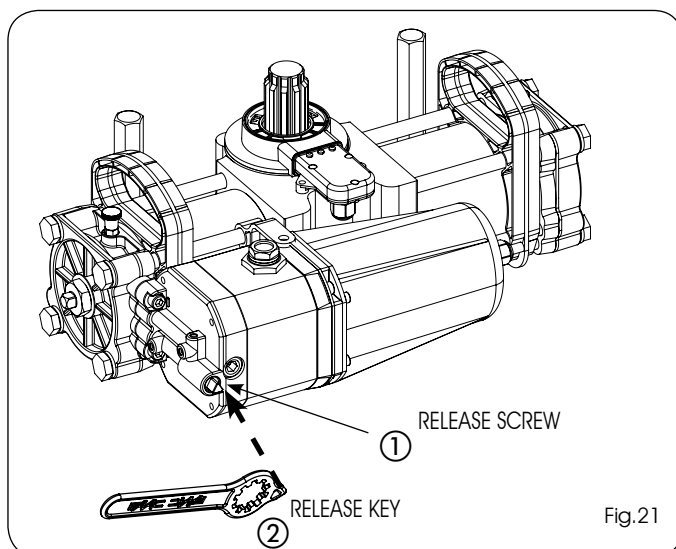

Fig.21
If the gate has to be moved manually due to a power cut or fault of the automated system, use the hydraulic release device with the release key (Fig.21 ref. ②):
- 2) Turn the release screw (Fig.21 ref.①) inserting the triangular recess of the supplied key (Fig.21 ref. ②):